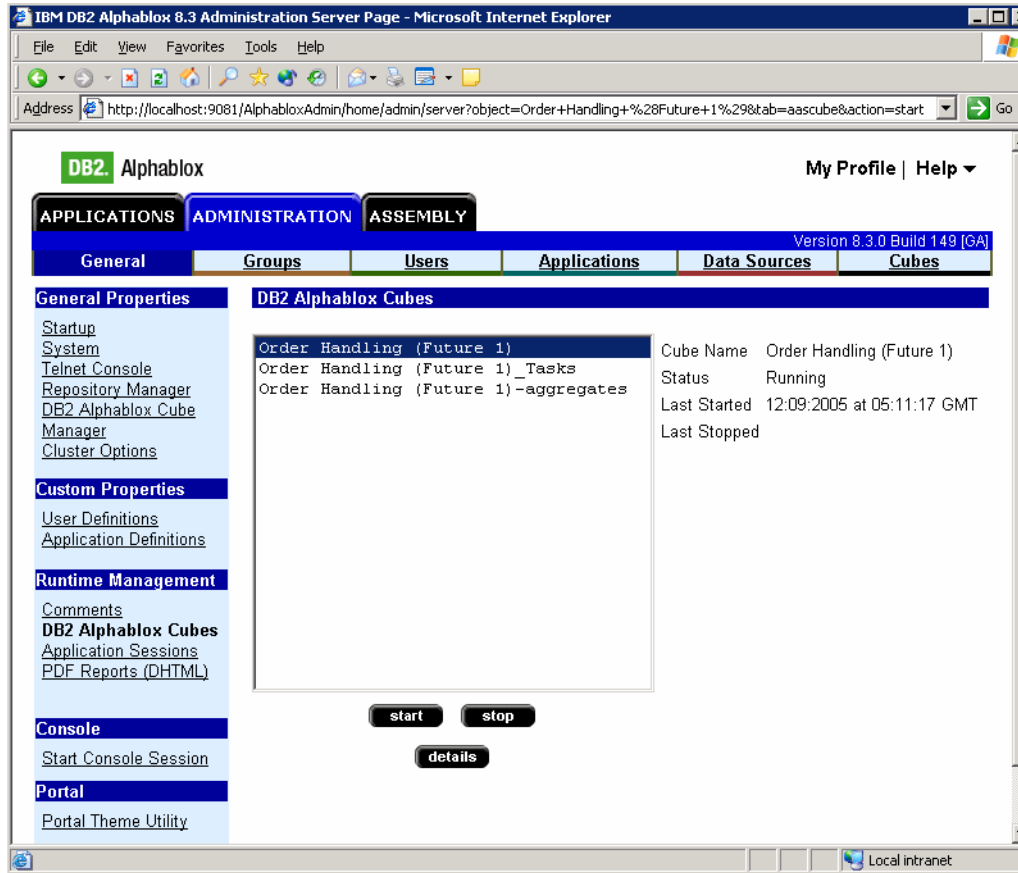

Figure 12-24 DB2 Alphablox Cubes: Runtime status screen
- ▶ For each of the cubes that you created, click *Start*. You get a confirmation as shown in Figure 12-24.